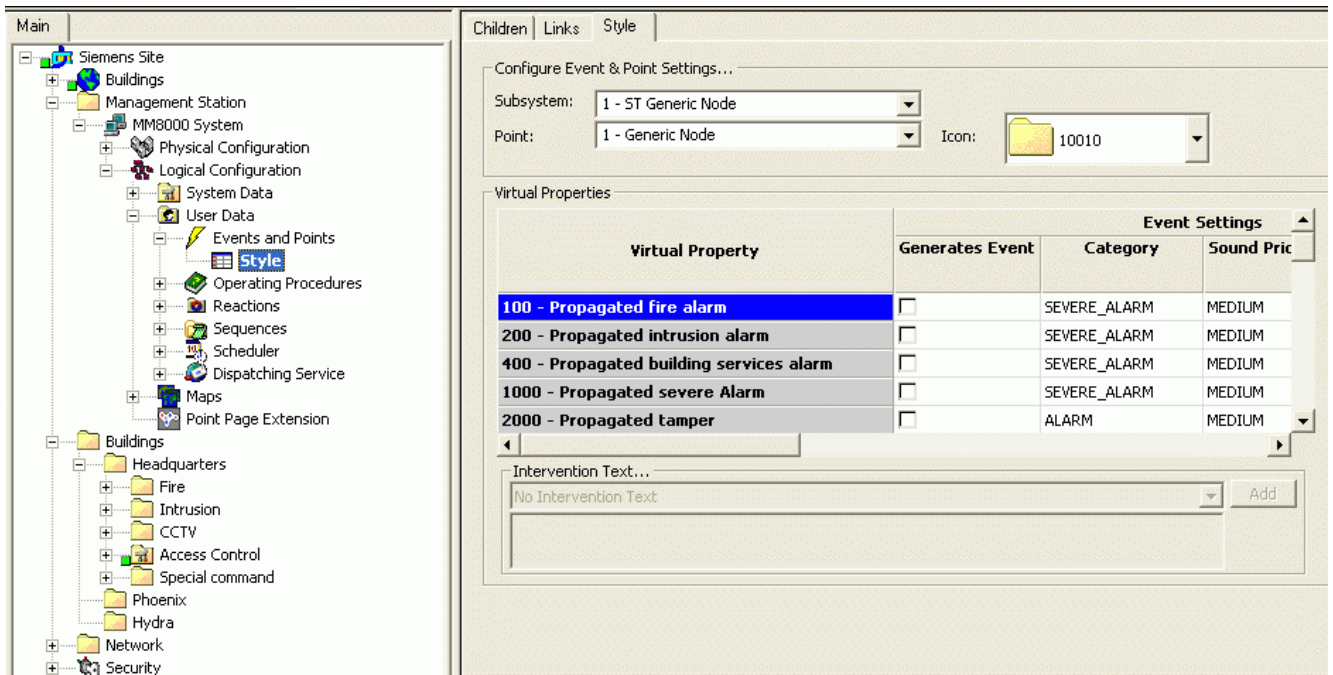

Fig. 14 Customising event settings of SiPass Doors
- In the **Event and OP Extensor** tab of each individual point, customise the options of an event (e.g.: modifying the event settings for the properties as in Fig. 14).
- In the **Style** tab of **MM8000 system - Logical configuration - User Data - Event and Points - Style**, customise the options of a class of points (e.g.: modifying the event settings for the properties of Door points as in Fig. 14).